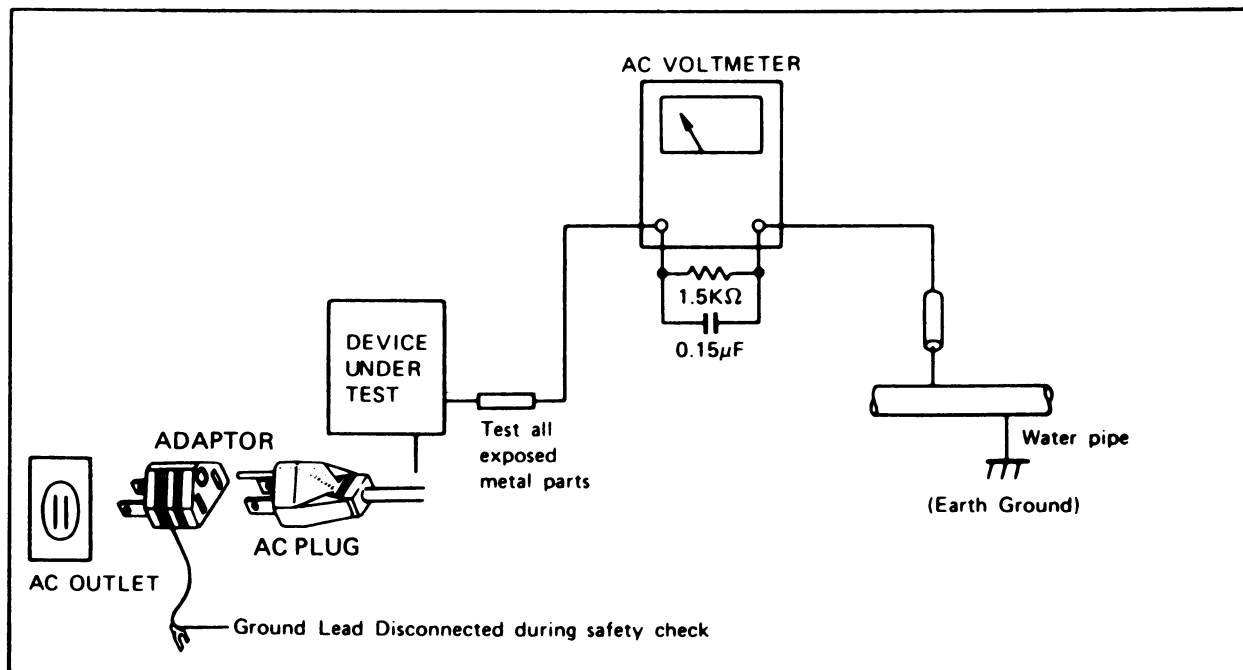

Figure 1. Leakage Current Hot Check
2. Connect a 1.5K ohms/10 watt resistor, paralleled by 0.15 μ F capacitor, between each exposed metallic part on the unit and a good earth ground such as a water pipe, as shown in Figure 1.